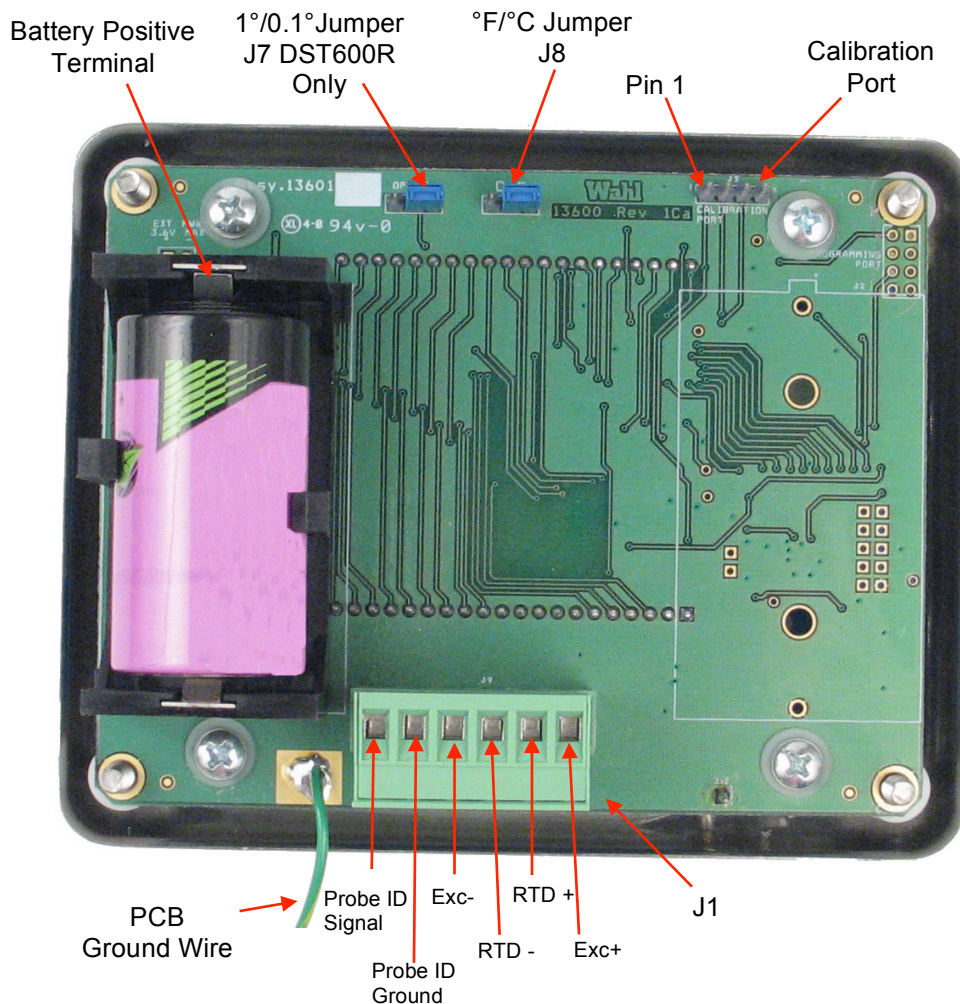

Fig. 5 (DST600R Shown)
- 5.1. Scale Selection °F/°C - Temperature scale is user selectable via jumper J8 (Fig. 5) on the Printed Circuit Board (PCB). The scale is indicated in the upper right corner of the display (Fig. 4).
- 5.2. Resolution Selection – DST6xxR offers the user the capability of changing the displayed resolution by selecting either 0.1° or 1° resolution. Resolution is selectable via jumper J7 (fig. 5) on the PCB, located to the left of the F/C selection jumper. Selecting 1° will display the truncated value, so a temperature of 255.9°F would display as 255°F.